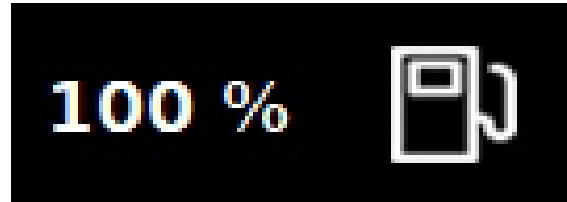

Fig 5.1
- The engine oil level through the engine stick (see the engine manufacturer manual attached) and the fuel level through the indicator Fig. 5.1